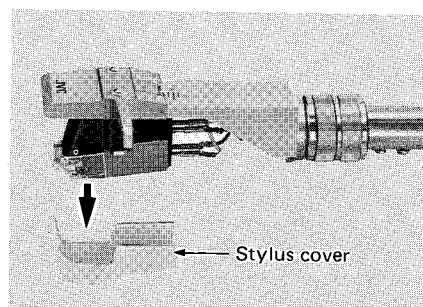

Fig. 15
5. Remove the stylus cover from the stylus. (See Fig. 15)